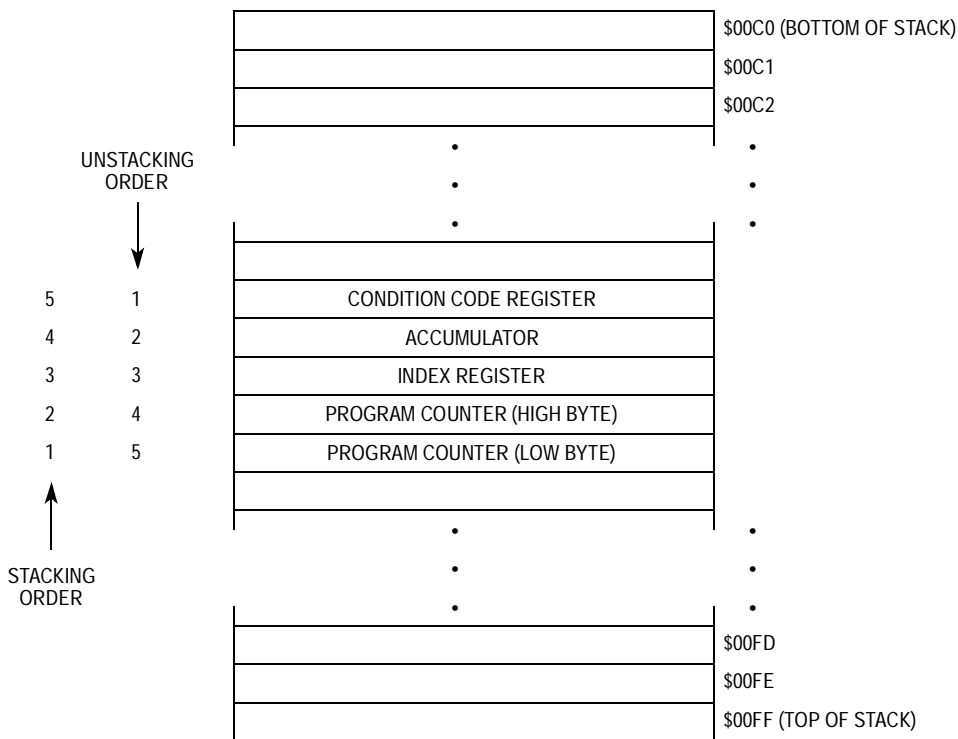

Figure 4-3. Stacking Order
- Stores the CPU registers on the stack in the order shown in Figure 4-3
The return-from-interrupt (RTI) instruction causes the CPU to recover the CPU registers from the stack as shown in Figure 4-3.